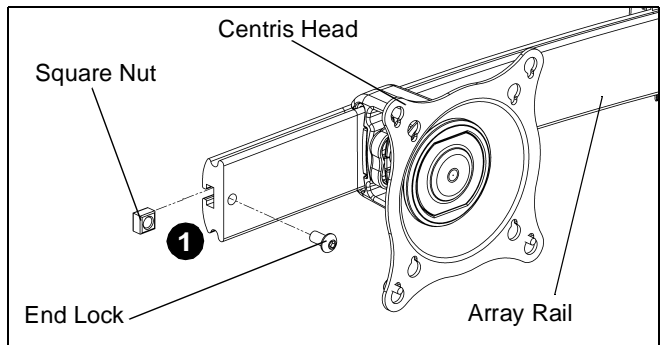

Figure 6
1. Uninstall end lock using the 5/32" hex key (H). (See Figure 6)